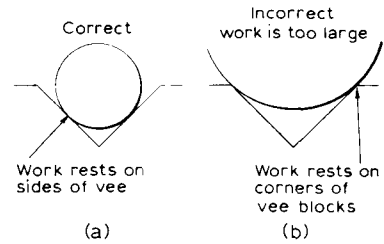

Fig. 4.31 The vee must be large enough to locate the work properly
**Marking off round work.** Vee blocks are used to support round work (Fig. 4.30). The vee must be large enough to locate the work properly (Fig. 4.31).